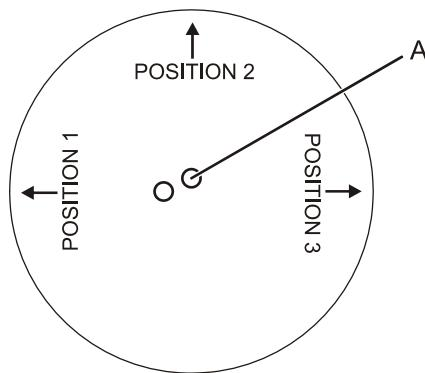

Figure 107: Using the alignment aperture in Position 2
6. Using the hole in the horizontal center of each alignment aperture (see Figure 107, A), thread the alignment laser through the output coupler and optical axis of the laser tube towards the HR rear mirror.